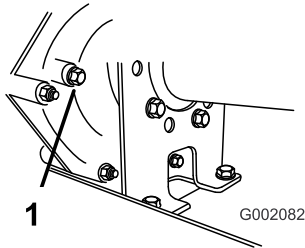

Figure 56
2. Remove the bolt from the level-indicating hole (Figure 56).